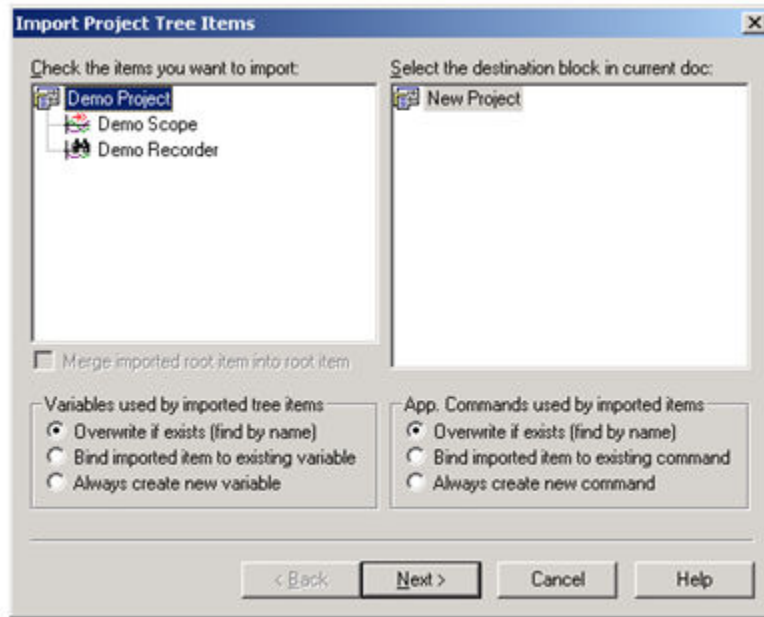

Figure 28. Import Project Tree Items window
The first dialog of the *Import* procedure is shown in Figure 28, on page 33. After specifying the name of the original project file, select and check the project tree items you wish to have in your current project. You can also select the target block item under which you want the imported items to be created.
- *Variables* = Put a check mark next to each variable you want to import. You don't need to import variables that are referenced from the tree items selected in the previous dialog from Figure 28, on page 33; such variables are always unconditionally imported.